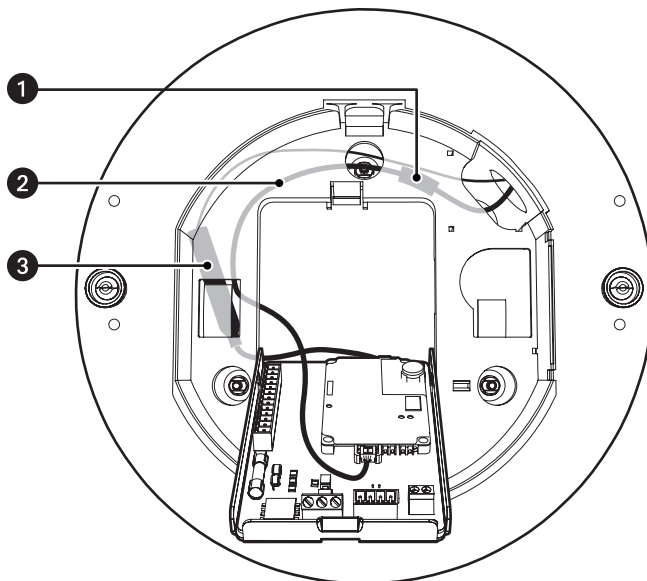

Figure 11. Routing the Cables in the Back Box
8. Before closing the interconnect door, ensure that no wires are between the top of the heat sink standoff and the back box (refer to Figure 11 on page 16). Both the video coaxial cable and the Ethernet cable need to be routed carefully to ensure clearance for the heat sink standoff.